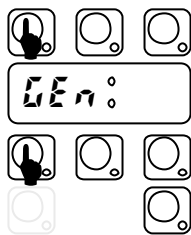

Fig.4.1
- Enter into the FACTORY SETTING mode by pressing and hold down ON/OFF and CYCLE_2 keys for at least five seconds (Fig.4.1);